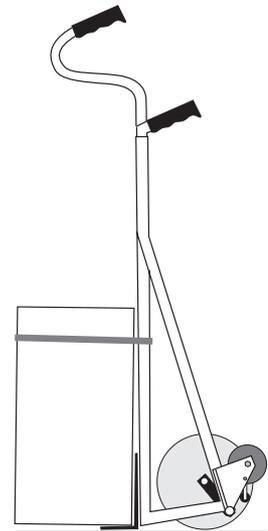

FIGURE 17
**Secure the load with the safety belt (see Figure 17).**